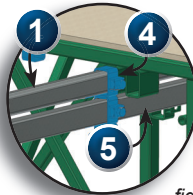
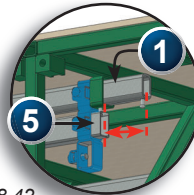
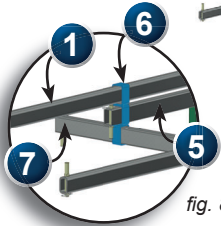

fig. 8.41
fig. 8.42
fig. 8.45
- 4- Slide the **top section** of a second cross box on the front end of the outrigger ("4" in fig. 8.41).
- 6- Remove the clevis pin and the plank stop pin and insert a 63" (160 cm) outrigger ("5", in fig. 8.41 and in fig. 8.45, p. 97) into the **middle section** of each cross box until its end is pushed in by about 3" to 4" (8 cm to 10 cm) from the end of the top outrigger, as shown in fig. 8.42.
- 10- Once all required doubled outriggers are installed, slide a transverse outrigger ("7" in fig. 8.45) through the bottom section of the cross boxes on the end of the doubled outriggers ("6" in fig. 8.45).